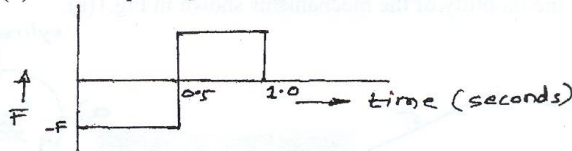

Fig.Q.4(b).
- b. The natural period of a spring – mass system is 1sec. It is subjected to a pulse motion as shown in Fig.Q.4(b). Plot the phase plane response. (10 Marks)